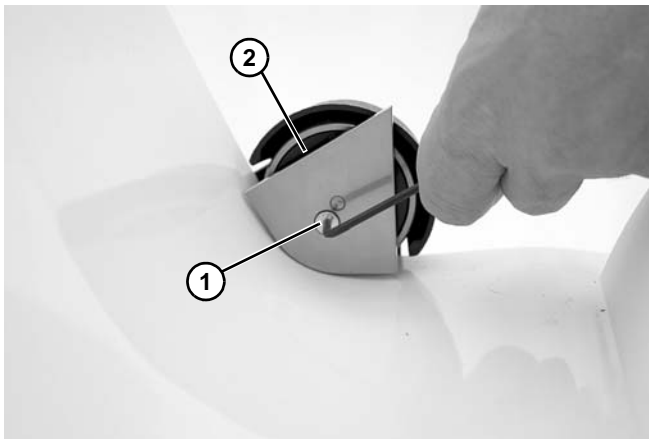

Figure 50
5. If equipped with a lower knuckle, remove screws (**Figure 50, item 1**) and remove lower knuckle return roller assembly (**Figure 50, item 2**) on both sides of conveyor.